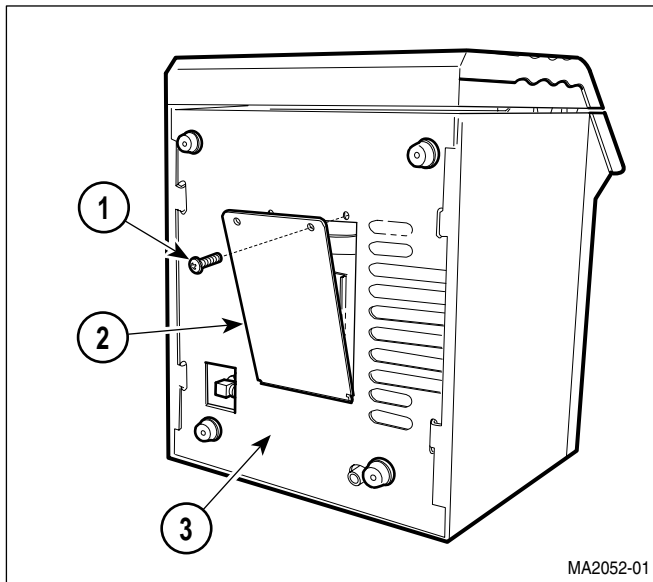

Figure 4-5. Base Inspection Cover Removal / Installation
- (4) Remove two screws (1, Figure 4-5) and base inspection cover (2) from base (3).